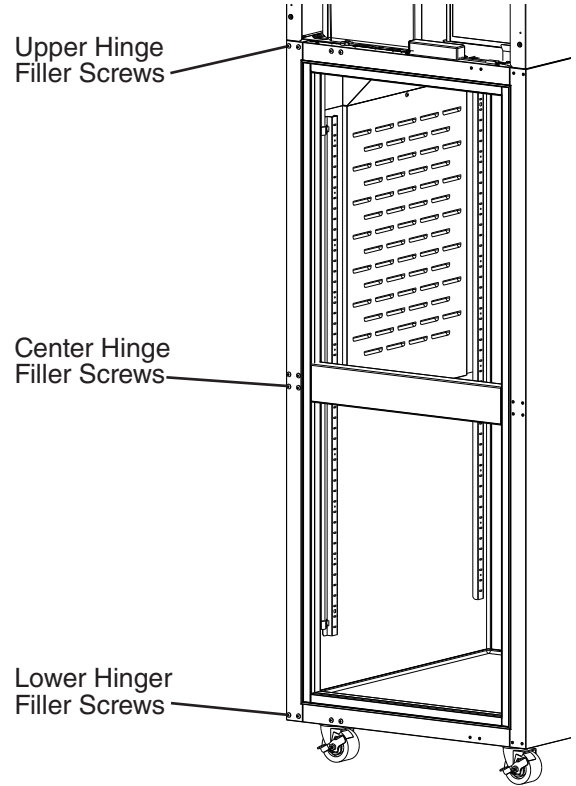

**Fig. 51**
- 9) Open the lower door. Using a screwdriver, unhinge the lower hinge arm from the lower hinge bracket. See Fig. 51